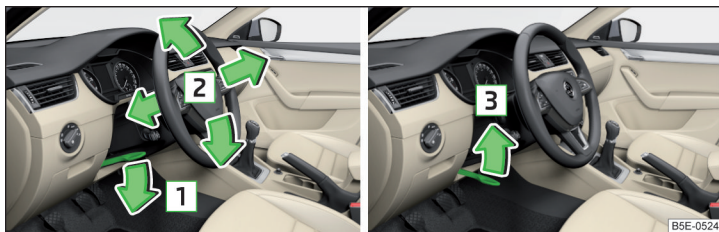

Fig. 2 Adjusting the steering wheel position
- Swivel the safety lever under the steering wheel in the direction of arrow **1** » Fig. 2.